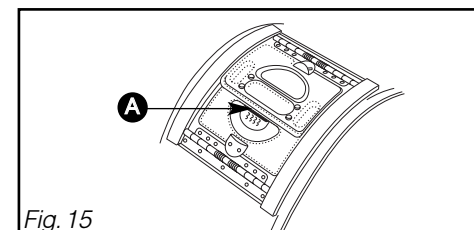

Fig. 15
**Important :** For correct locking, check that the blue edging **A** of the knob is visible (Fig. 15).